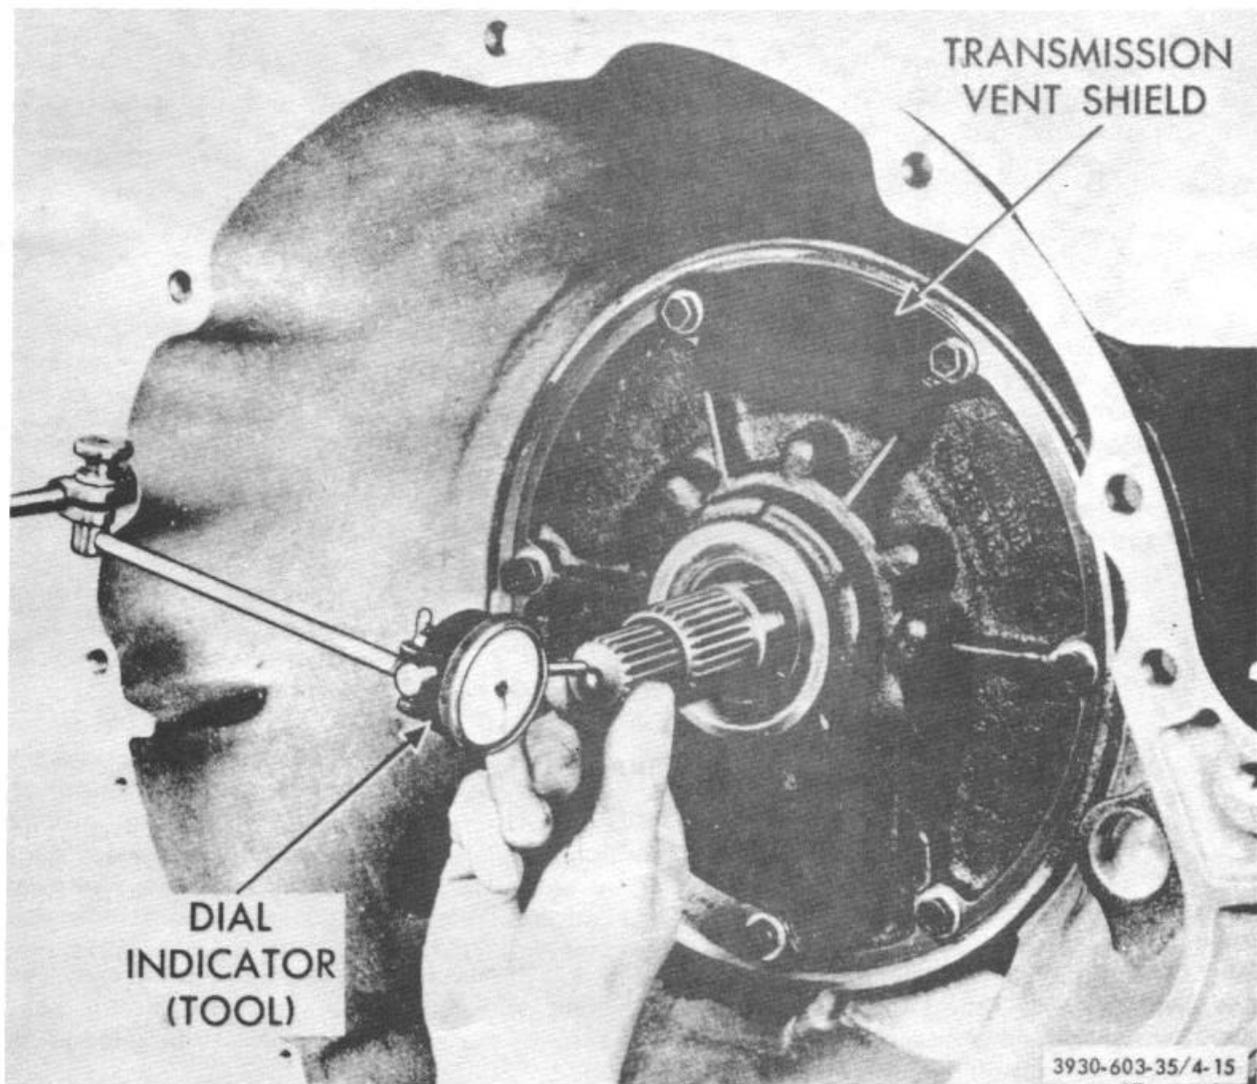

Figure 4-15. Measuring drive train end play.
b. Attach a dial indicator to transmission bell housing with its plunger seated against end of input shaft (fig. 4-15).